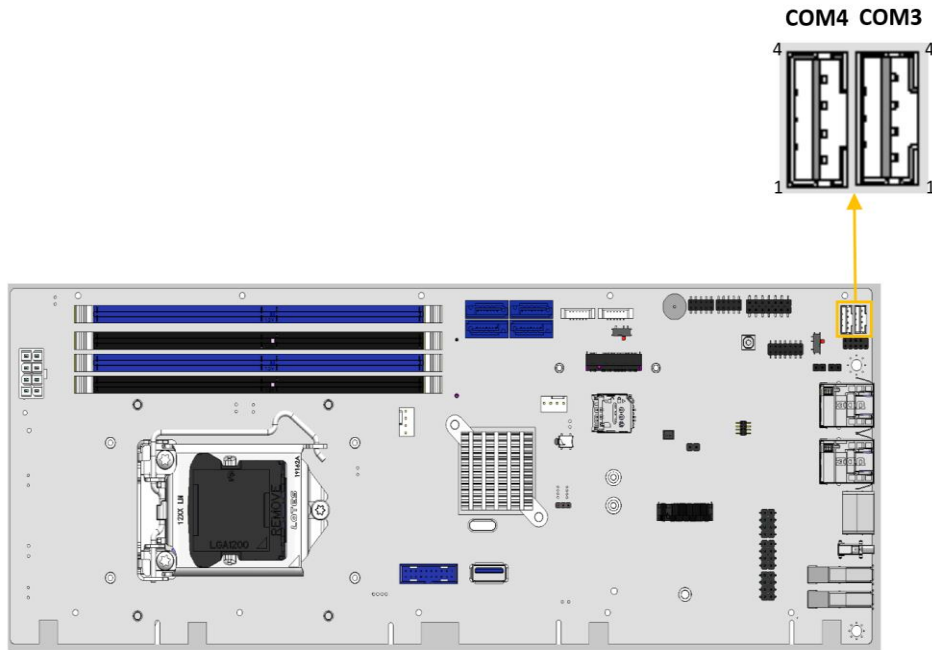

Figure 3-21: RS-422/485 Serial Port Connectors Location
- CN Location:** See **Figure 3-21**